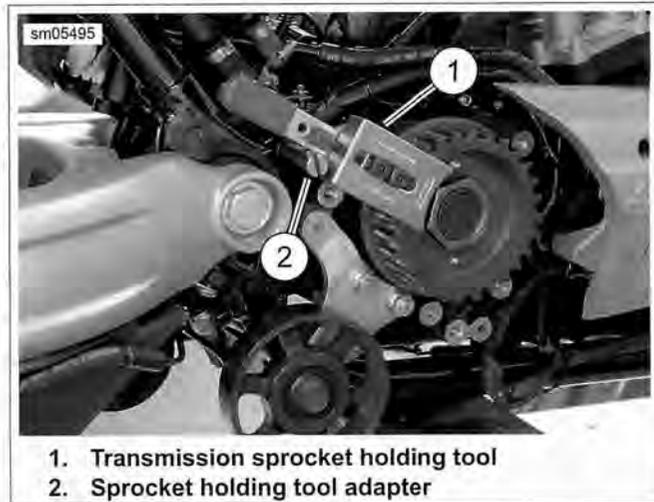

Figure 5-105. Sprocket Holding Tool and Adapter (Shown in Installation Position on XR Model)
- See Figure 5-105. On XR 1200X and XL models without passenger footrests, install SPROCKET HOLDING TOOL ADAPTER (Part No. HD-46282-1A) into bottom footrest bracket hole in frame. Place handle of tool underneath adapter.
See Figure 5-105. On XR 1200X, and XL models without passenger footrests, screw SPROCKET HOLDING TOOL ADAPTER (Part No. HD-46282-1A) into top footrest bracket hole in frame. Place handle of tool on top of adapter.